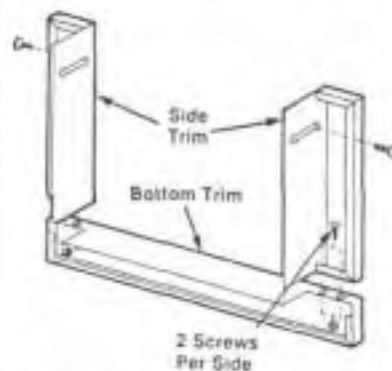

Figure 18
Step 10: The two side trim pieces and the bottom trim piece must be assembled before attaching to the fireplace. (Refer to Figure 18 for the method of assembly).